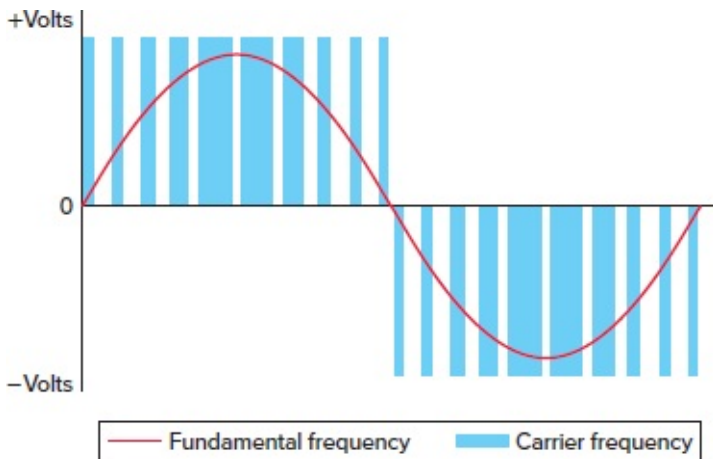

Figure 10-9 Sine-wave line voltage superimposed on the PWM inverter output.
Figure 10-9 shows the sine-wave (AC) line voltage, superimposed on the pulsed inverter output, or simulated AC. Notice that the pulses are the same height for each pulse. This is because the DC bus voltage the drive uses to create these pulses is constant. Output voltage is varied by changing the width and polarity of the switched pulses. Output frequency is adjusted by changing the switching cycle time. The resulting current in an inductive motor simulates a sine wave of the desired output frequency. Most true RMS-measuring multimeters are fast enough to measure the RMS value of the PWM voltage and current.